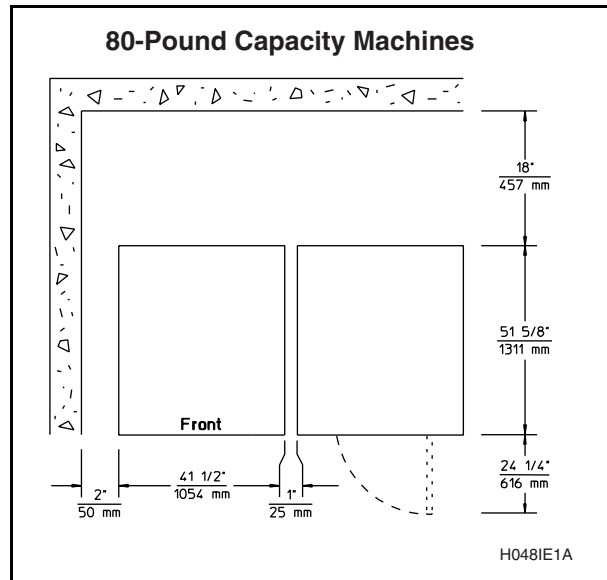

Figure 14
**Note:** The dimensional clearances for the 80-pound model are dependent upon which set of mounting bolt holes is used. If the machine is intended for close mounting (mounting bolt pattern labeled "A" in Figure 28), follow the clearances in Figure 14. If the machine is intended for standard mounting (mounting bolt pattern labeled "B" in Figure 28), provide a minimum clearance of 8 inches (203 mm) at each side of the machine in addition to the clearances in Figure 14.